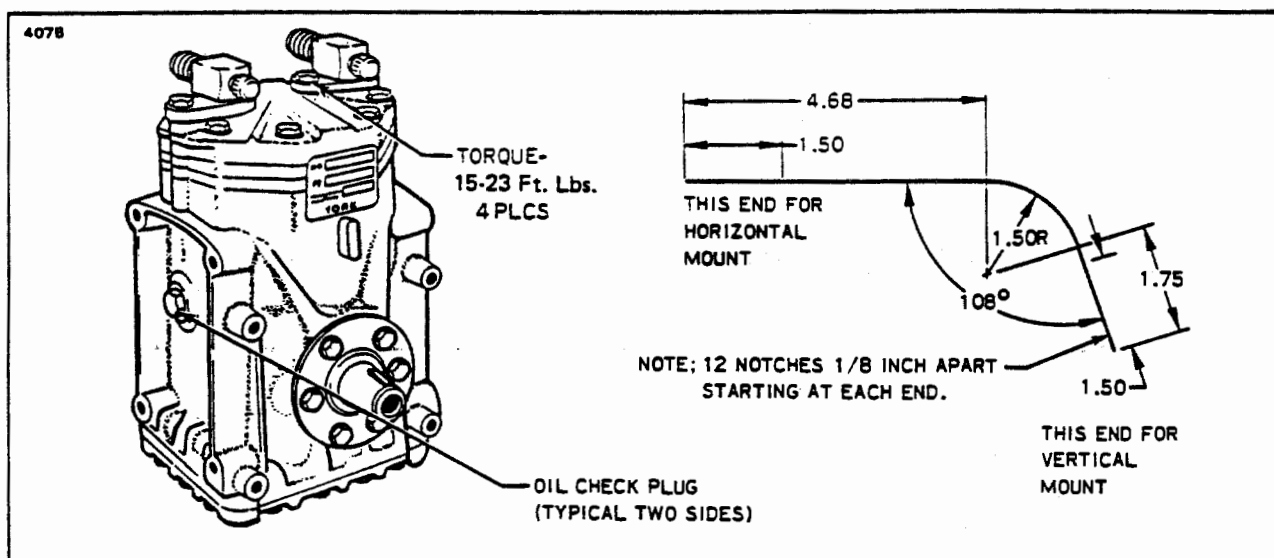

Figure 14-9. York Compressor and Fabricated Oil Dipstick
2. Fabricate an oil dipstick. (Refer to Figure 14-9.)
4. Before inserting the dipstick, the crankshaft Woodruff key should be located in the up position. (The front face of the compressor clutch is marked with a stamped "K" indicating the key position). The oil level should be measured from the lowest point in the crankcase. Use the long end of the dipstick. (See Figure 14-9.)